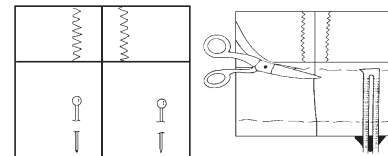

Fig. 13-3
4. Measure the hem width needed plus $\frac{1}{4}$ inch (6 mm) for finishing. Use a sewing gauge, cardboard notched at the correct hem width, or a ruler, to mark the correct hem width. Cut off any extra fabric from the edge of the hem or serge on the marked line, cutting off the extra fabric and finishing the raw edge at the same time. **(Figs. 13-3 and 13-4)**